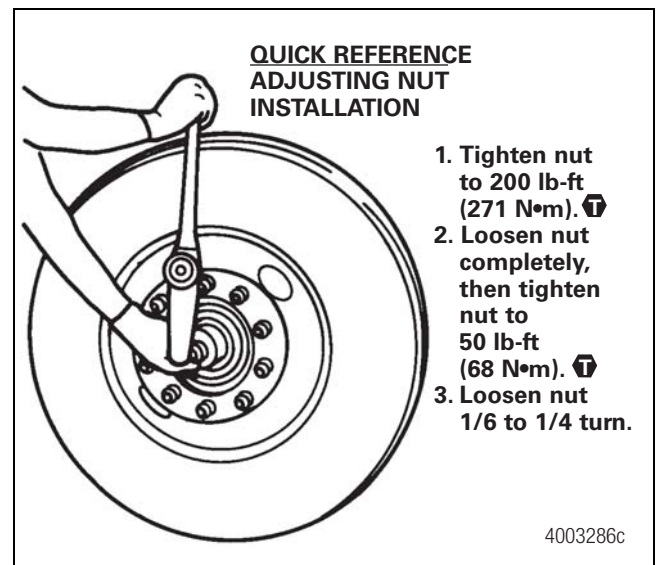

Figure 10.5
1. Install the adjusting nut so that the pin on the nut faces away from the wheel-end equipment. Tighten the nut to 200 lb-ft (271 N•m) while rotating the hub assembly. Figure 10.5. ⚠